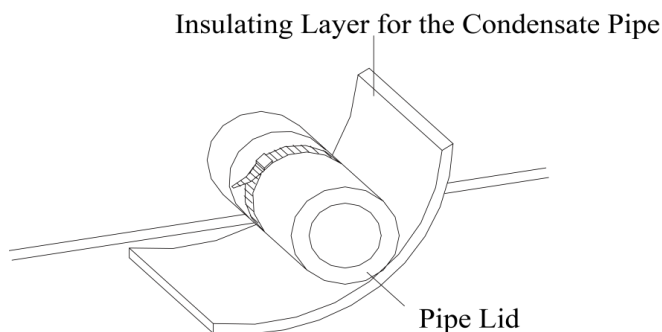

Fig.13 Thermal Insulation of the Condensate Pipe
a. The condensate pipe should keep a inclination angle of  $5 \sim 10^\circ$ , which can facilitate the drainage of the condensate water. And the joints of the condensate pipe should be insulated by the insulation material to prevent condensing(see Fig.13).